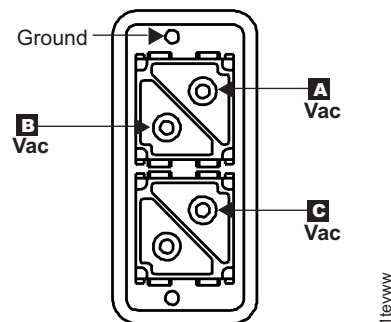

Figure 40. Mainline power cable connector
3. Measure the voltage between the ground pin and each voltage pin (**A** , **B** , and **C**) on each mainline power cable. Refer to Figure 40.
4. Locate the DS8000 information label located on the top of the left side panel at the rear of the storage facility. Measure the voltage between each pair of voltage pins (**A** to **B** , **B** to **C** , and **C** to **A**) on each mainline power cable. Refer to Figure 40. Verify that the customer AC input voltage that you just measured matches the machine input voltage information on the label.